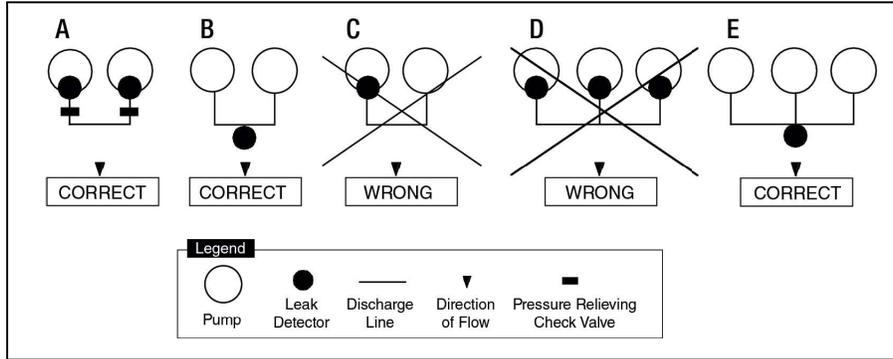

Figure 1. Leak Detector Installations
1. When installing a leak detector at each pump (diagram A, Figure 1) the main considerations are:
- a. Considering that two leak detectors are involved, the flow rates referred to in Position 2, diagrams A, Figure 1 (leak sensing position) would double, i.e.
- d. Assuming that the leak detectors were mounted directly in Red Jacket pumps, or in 038-072 housing as close to the discharge of the pumps as possible (see Figure 1), most of the discharge line would be monitored by the leak detector as the leak detector monitors the discharge line downstream from itself.
2. When installing one leak detector in the main discharge line at a point beyond where the discharge lines from each of the two pumps manifold to it (diagram B, Figure 1), main considerations are:
- b. With one leak detector being used, as illustrated in diagram B, Figure 1, the leak detector would operate as described in Figures 1 and 2 with stated flow rates and time being applicable.
- c. Considering that the leak detector monitors the discharge line downstream from itself, the manifold portion and any piping previous to the leak detector would not be protected by the leak detector (diagram B, Figure 1.)
using a leak detector in each as shown in diagram D, Figure 1 will only detect a leak of approximately 9 gph or larger ($3 \times 3 \text{ gph} = 9 \text{ gph}$). Also, in the event that an adequate leak rate did occur to activate the leak detector, the restricted flow rate would be 1-1/2 to 3 gpm for each leak detector and pump in service ($3 \times 3 = 9 \text{ gpm}$). It is possible that a flow rate of this size would not be recognized as a restricted flow rate or as abnormal. Each additional leak detector and pump used will increase the minimum detectable leak rate by approximately 3 gph and the restricted flow rate by 1-1/2 to 3 gpm. Due to the above factors, we do not recommend this system.